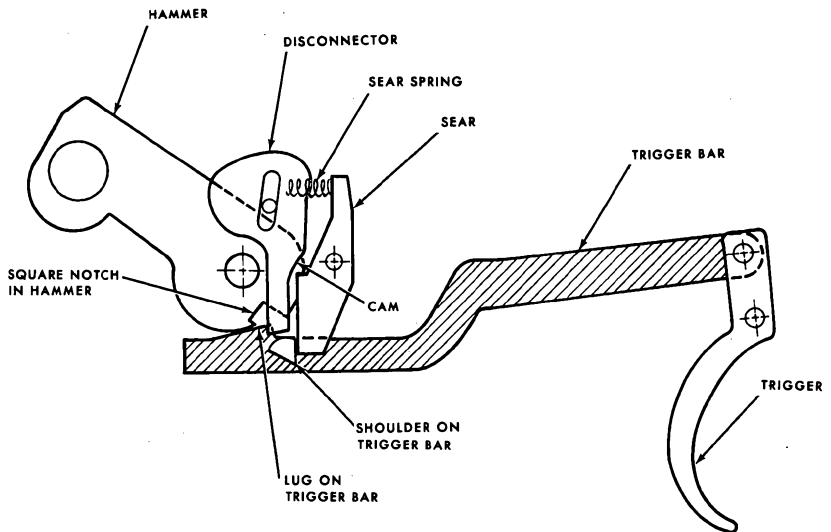

Figure 17. P-64 trigger mechanism.
(1) Insure that the hammer is cocked, that the safety is in the safe position, and that the trigger guard is in the disassembly position ((1) above). Slide the driving spring over the barrel.
(2) Insert the end of the driving spring into the circular front section of the slide; then insert the barrel into the front hole in the slide. Pull the slide rearward, pressing it downward at the same time, until it slips down into engagement with the receiver. Release the slide so that its spring will drive it forward.
(3) Disengage the trigger guard from the receiver and return the trigger guard to its normal position. Insert the magazine.
b. If the hammer is in its forward position, finger pressure on the trigger moves the trigger bar forward. A lug on the rear top of the trigger bar mates with a square notch in the bottom of the hammer (fig 17), and, as the trigger bar moves, it causes the top of the hammer to rotate back. When the trigger bar is almost at the limit of its forward travel, the rotary motion of the hammer has moved its notch up and out of contact with the trigger bar lug; when this occurs, the firing spring swings the hammer to fire the cartridge.
c. When the hammer is cocked, the sear nose, under pressure of the sear spring, snaps into the sear notch on the hammer and holds the hammer cocked (fig 17). When the trigger is pressed and the trigger bar moves forward, a shoulder inside the trigger bar contacts the sear and swings the bottom of the sear forward and out of engagement with the hammer. The hammer, under the force of the hammer spring, swings forward to fire the cartridge.
d. When the cartridge fires, it forces the slide rearward. The empty cartridge case is held to the slide by the extractor until the ejector (fig 16) contacts the case and expels it from the weapon. The slide also forces the disconnector down, and the disconnector, in turn, forces the trigger bar down. The shoulder on the trigger bar (fig 17) releases the sear, which, under pressure of its spring, swings back where it can engage and hold the hammer cocked. When the slide completes its recoil movement, the driving spring forces the slide forward to load a fresh cartridge from the magazine into the barrel. When the trigger is released, the trigger bar moves rearward until the shoulder clears the sear, at which time the trigger bar swings up and the pistol is ready to fire another shot.
e. When the safety is set to safe, a pair of lugs swing into position beside the rear end of the firing pin. These lugs protrude past the end of the pin to prevent the hammer from striking the pin. As the safety continues to turn, a cam on its body forces the disconnector (fig 17) downward; the disconnector strikes the sear and cams the sear out of engagement with the hammer, which falls. The disconnector also depresses the trigger bar so its notch cannot mate with the hammer. The hammer strikes the lugs on the safety, but because these protect the firing pin, the pistol will not fire, and, while the disconnector holds the trigger bar depressed, pressure on the trigger will not move the hammer or sear; the